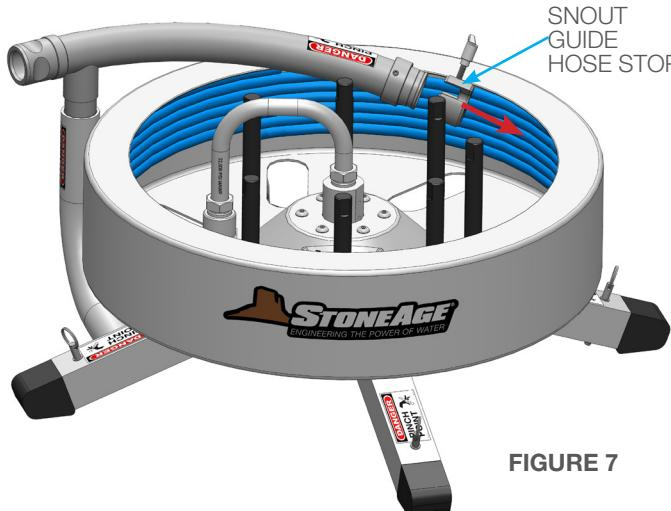

FIGURE 7
1. Remove the Snout Guide Hose Stop by releasing the Adjustable Handle and sliding the Stop off the Guide. (**Figure 7**)